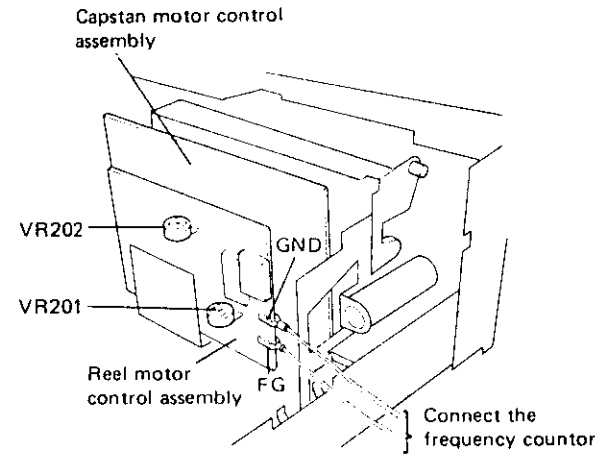

Fig. 12-5 FF/REW Rotating speed adjustment
1. Connect a frequency counter between the FG and GND terminals on the reel motor control ass'y (see Fig. 12-5).